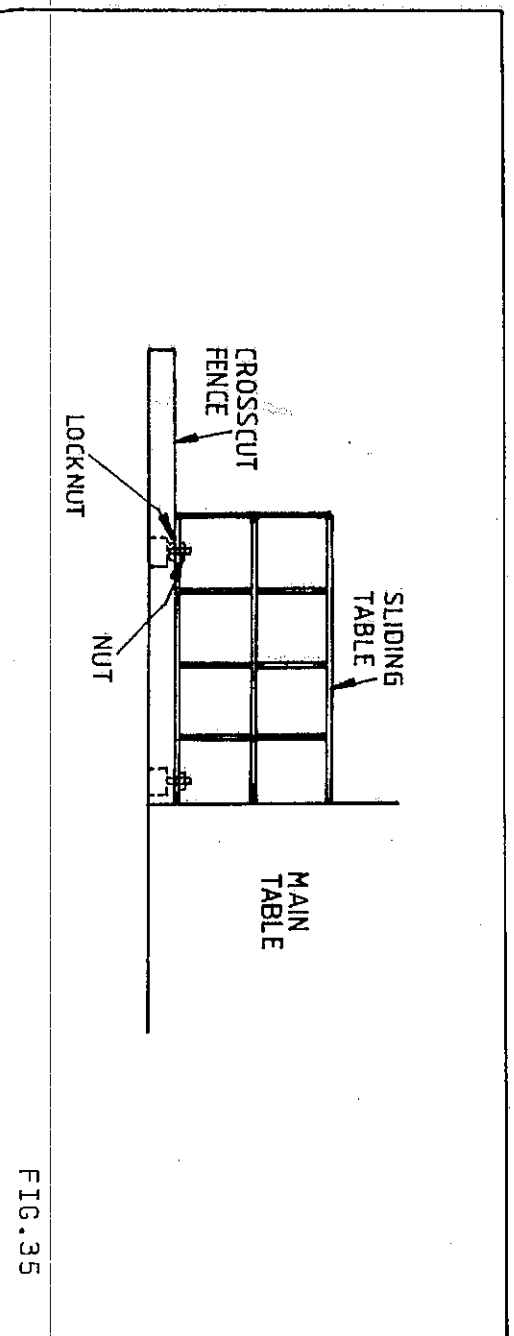

FIG. 35
CROSSCUT FENCE SQUARENESS FIG.35
- 1) Loosen the socket head capscrew 'A' in FIG.35 with 8mm allen key (supplied with machine) and tap spindle (with hide face hammer) as required, taking care not to damage the threads on spindle ends.